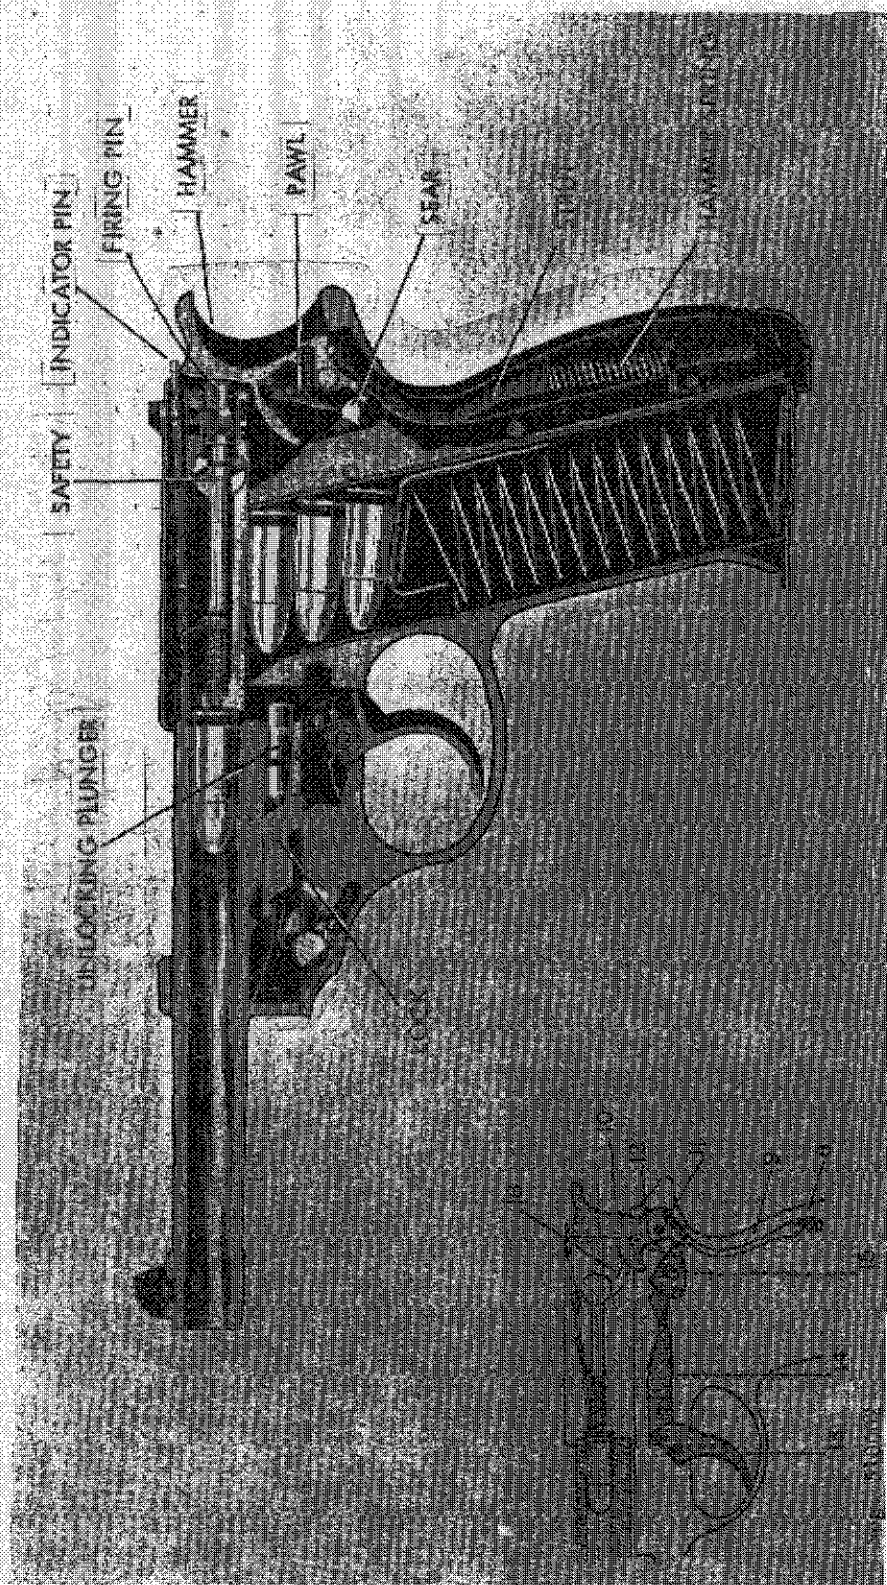

Figure 3. P1 pistol, section.
d. Grasp the slide by its serrations and pull it fully rearward. Release the slide, and it will run forward and load the first cartridge. CAUTION: The pistol is now ready to fire. A small pin (fig 3) protrudes from the slide, above the hammer, to indicate that the pistol has a cartridge in its chamber.
d. Pressure on the trigger moves the trigger bar (fig 3-14) forward, and a hook on the end of the trigger bar pulls the sear out of engagement with the hammer. The hammer swings forward and strikes the firing pin (fig 3), to fire the cartridge. The recoiling slide depresses the trigger bar out of engagement with the sear, and the action described in paragraph c above starts again.
e. The barrel is locked to the slide by the lock (fig 3), and together they recoil on the receiver when the pistol fires. As the lock moves rearward, off a shelf in the receiver, the unlocking plunger (fig 3) hits the receiver and stops. The lock moves rearward onto the now stationary unlocking plunger and is cammed down out of engagement with the slide.